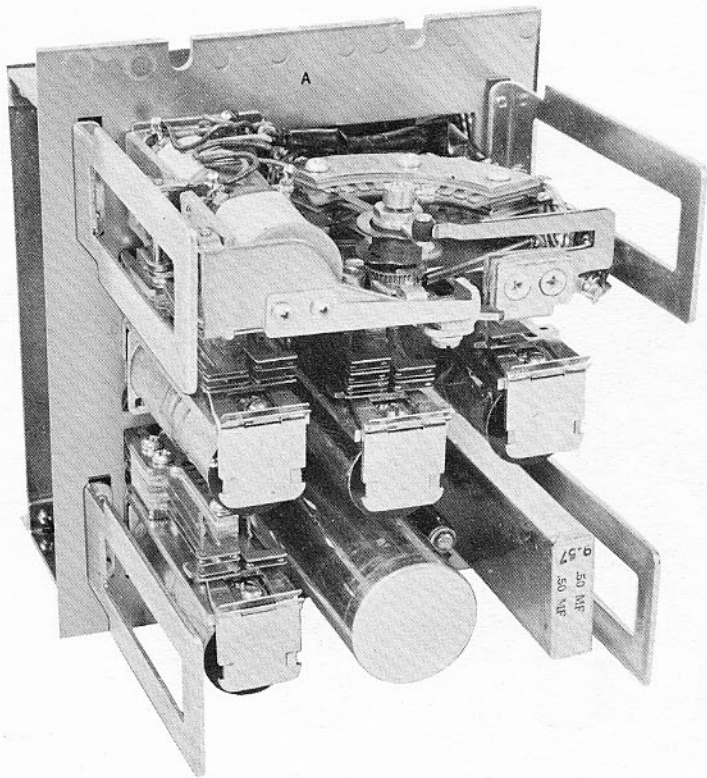

Figure 1-13.
L. K207A Key Telephone Unit (see Figure 1-13)